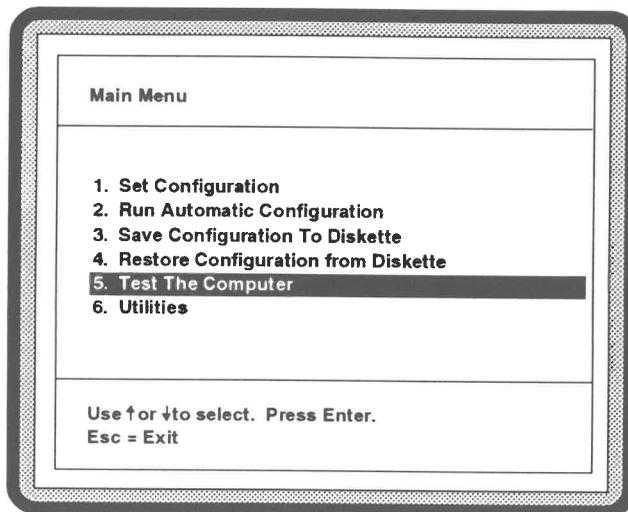

Figure 5-1 Computer Test Option
3. From the **Main Menu**, select the **Test The Computer** option and press Enter (see Figure 5-1). Follow the prompts until the **Test Group Query Window** appears.